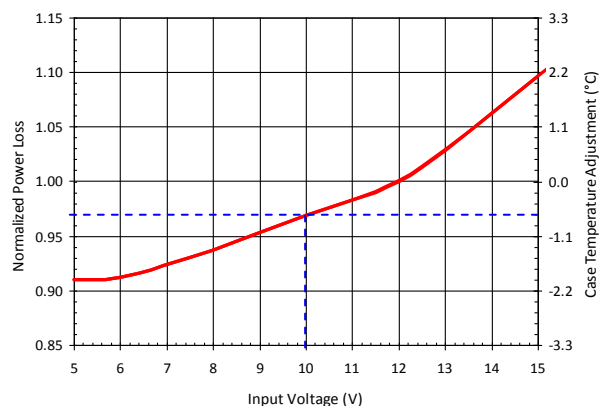

Figure 11: Normalized Power Loss vs. Input Voltage
- 2) Determine the input voltage normalizing factor with $V_{IN}=10V$, which is 0.97 based on the dashed lines in Figure 11.
- 9) Determine the case temperature with $V_{IN}=10V$, which is -0.7° based on the dashed lines in Figure 11.